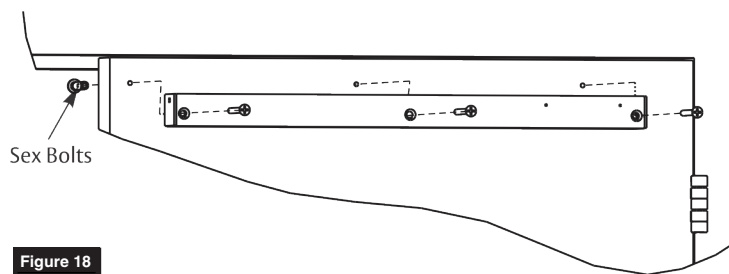

Figure 18
1. Using previously prepared holes in door, install three (3) 1/4-20 x 1-5/8" screws through track and into sex bolts. (Figure 18)